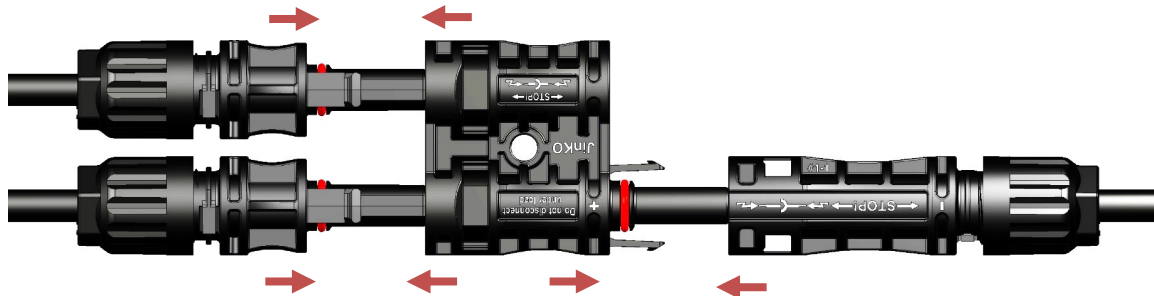
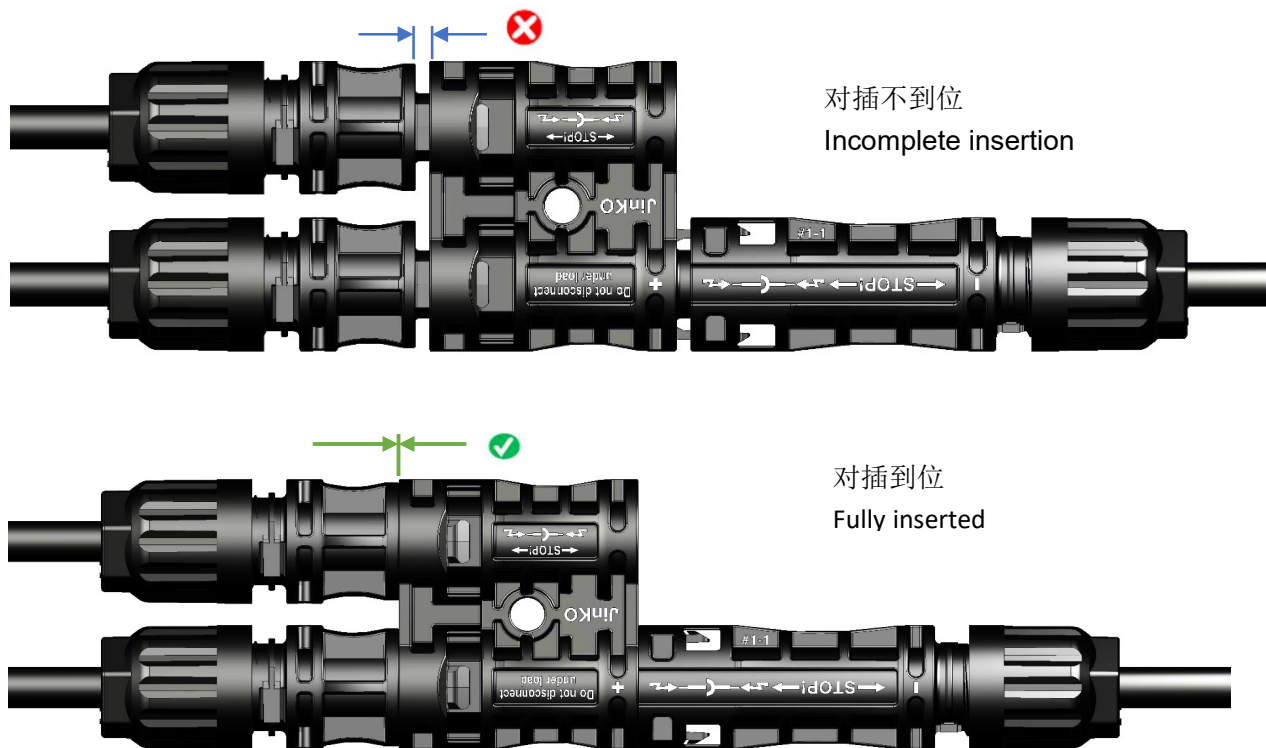

Figure 1
Figure 2
- ✧ 分支连接器与公母电缆连接器插合：使用公母电缆连接器与分支连接器进行对插，对插时发出滴答声说明插合到位，拉拔对插的连接器，检查分支连接器与公母电缆连接器是否完全连接好（如图 1、2）；禁止安装未完全耦合的连接器，避免锁扣失效，安装时须检查是否对插到位（如图 2）。
- ✧ Plugging and connecting the branch connector with the male/female cable connector: Use the male/female cable connector to plug and connect the branch connector. When a clicking sound indicates that the plug is in place. Pull the connector that is plugged in, and check whether the branch connector and the male/female cable connector are fully connected (Fig. 1-2); Do not install connectors that are not fully coupled. During installation, it is necessary to check whether the connectors are properly inserted (Fig. 2).